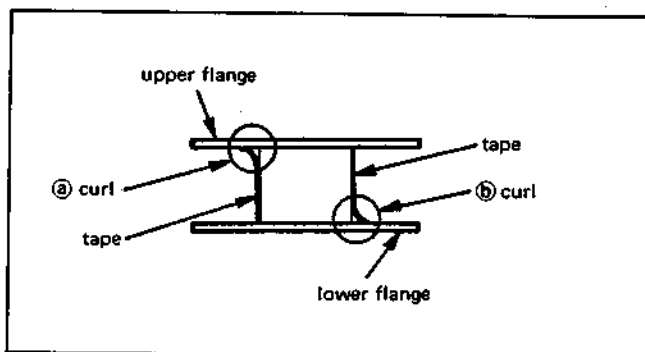
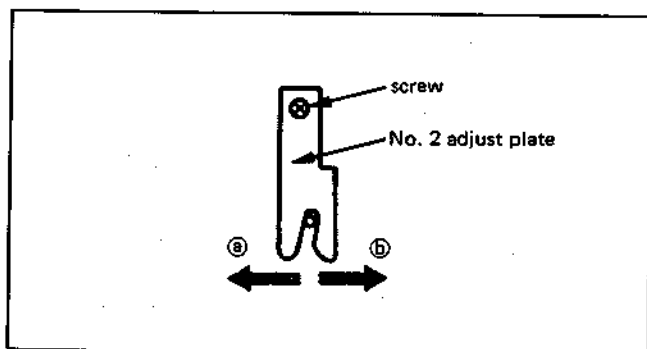

Fig. 4-23 S Reel
Fig. 4-24
(Fig. 4-23 ③) Loosen the No. 2 adjust plate screw, move the plate in the direction of arrow ③ in Fig. 4-24 and tighten the screw.
(Fig. 4-23 ④) Loosen the No. 2 adjust plate screw, move the plate in the direction of arrow ④ in Fig. 4-24 and tighten the screw.